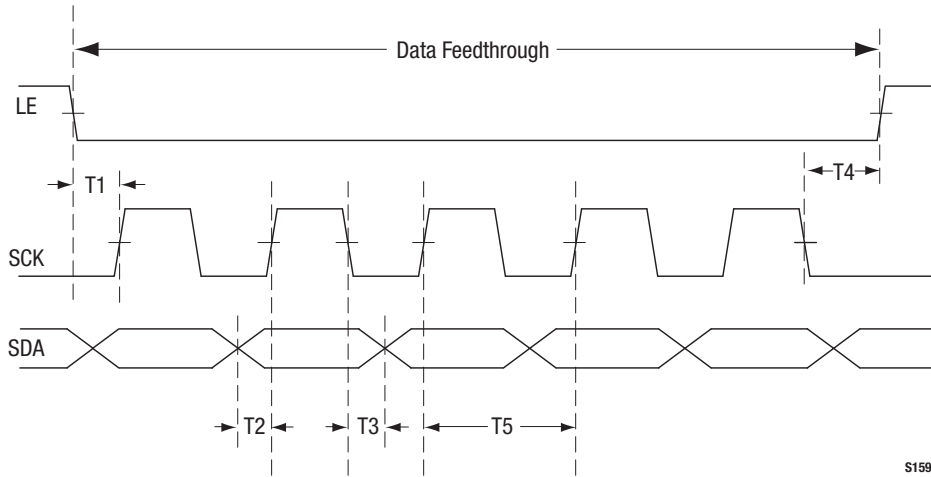

Figure 3. Power-Up/Power-Down Timing
changes states on the rising edge of the latch-enable (LE) signal, according to the most recent five bits of shifted data accepted since the previous falling edge of the LE signal. Refer to the timing diagram in Figure 3 and timing parameter specifications in Table 2.